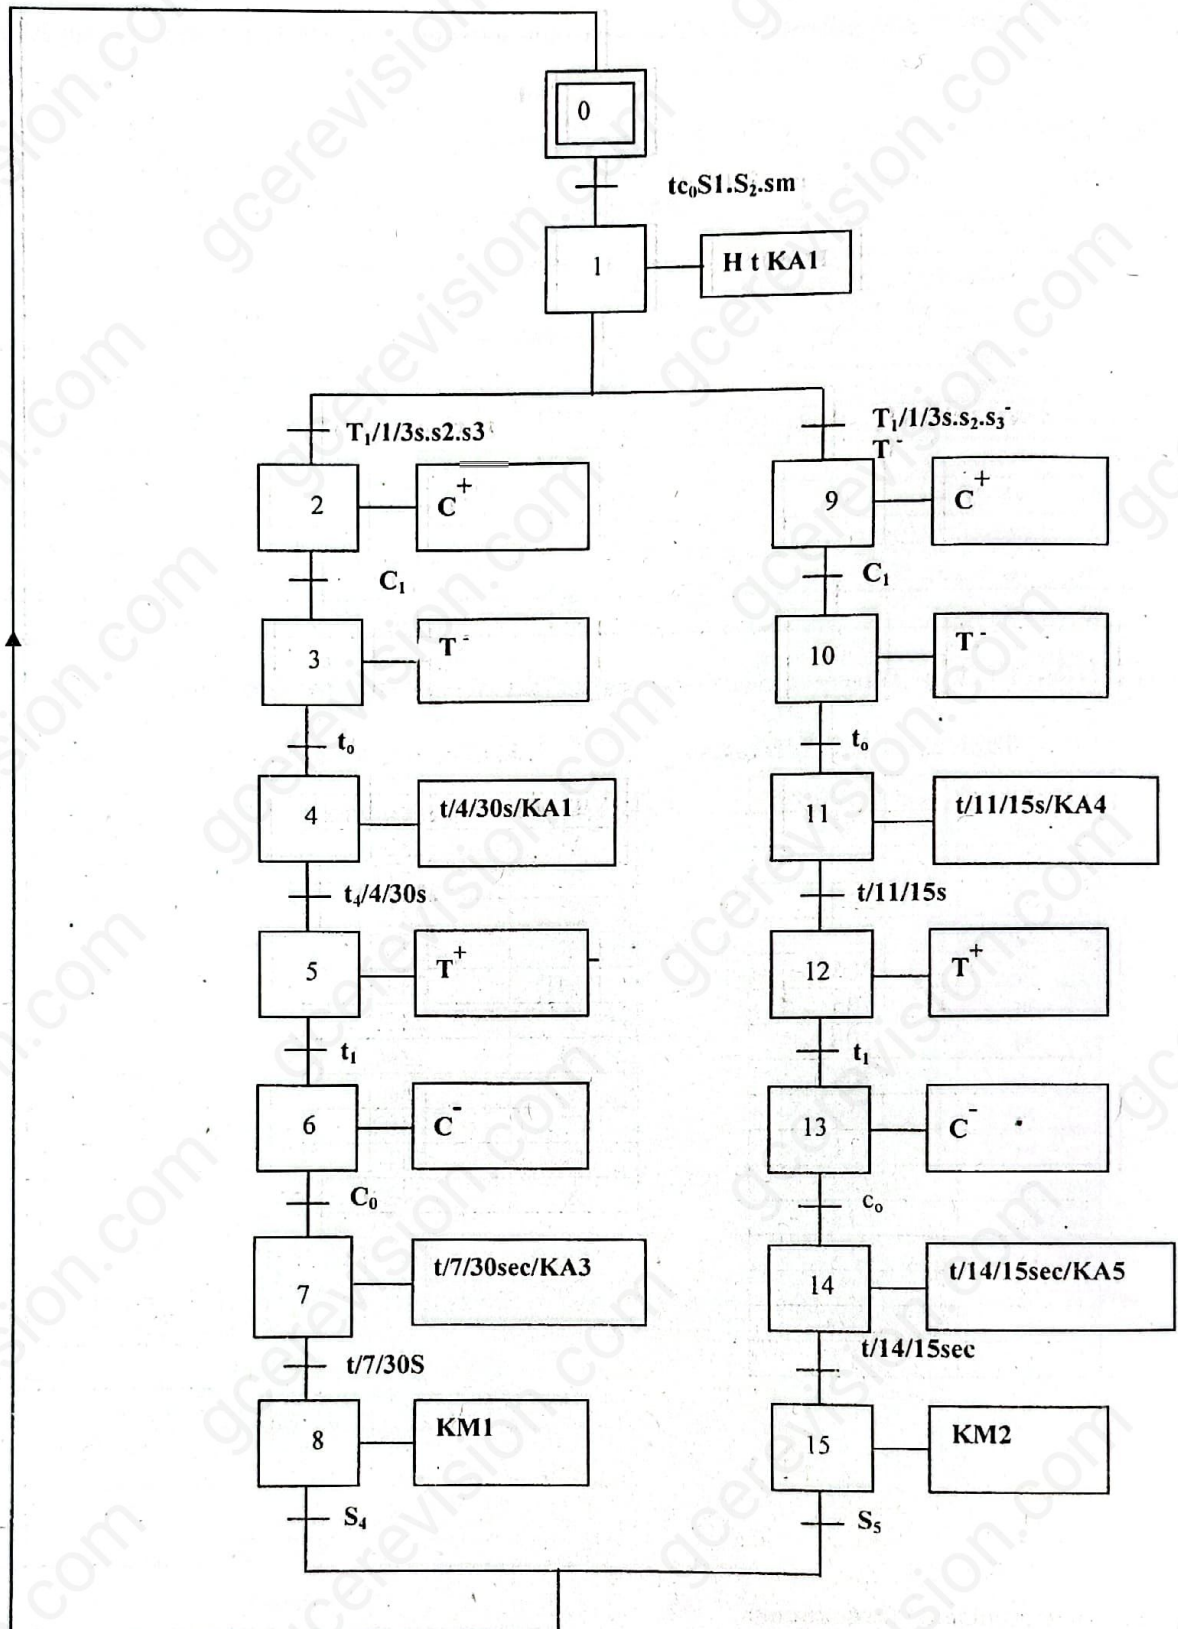

Figure 2: GRAFCET Level II of the automated system
6. An automatic system whose description and functioning are not given, is represented by the functional chart in figure 2.